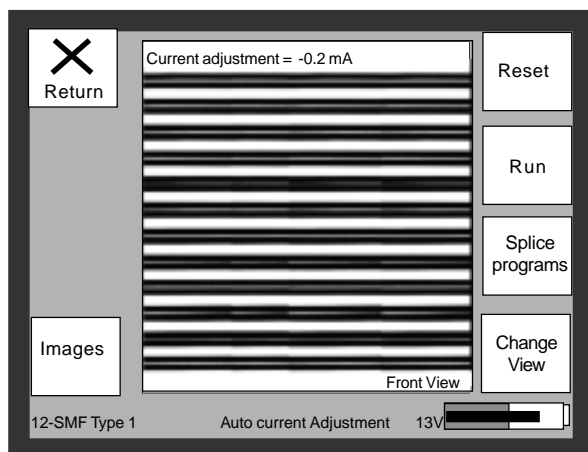

Fig. 66 - Monitor showing new Current Adjustment Value
- 8. The new Current Adjustment Value is displayed on the monitor as shown in fig. 66.